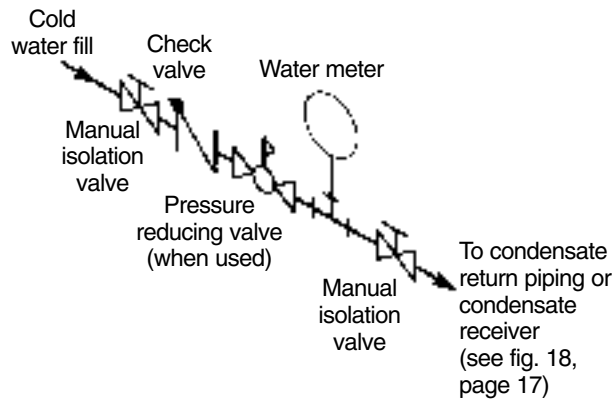

Figure 14 Cold Water Fill Piping
- Connect cold water fill piping as shown in Figure 14. Also shown are recommended valves and water meter, if used. Water meter will detect added makeup water, indicating leaks in system.